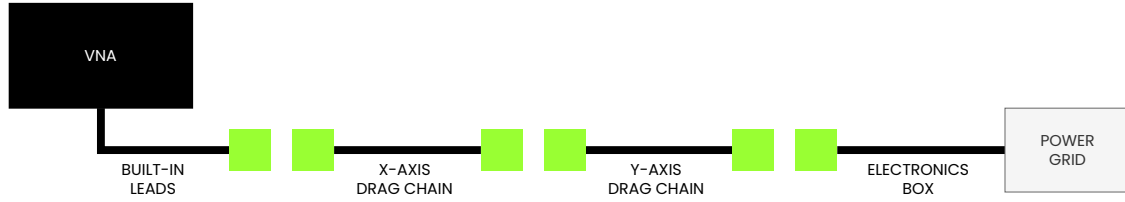

Figure 48: Cabling stages for the VNA power.
The cabling for the VNA power consists of providing the instrument with power from the power source to the VNA. The cabling should be done in such a way that its parts are located in the different major components. Figure 48 presents the cabling stages for the VNA power. A total of four (4) AC plug connectors and 4350 millimeters of 3-phase AC cable are needed in order to execute the VNA power cabling. Table 8 presents the procedure for cabling the VNA power.